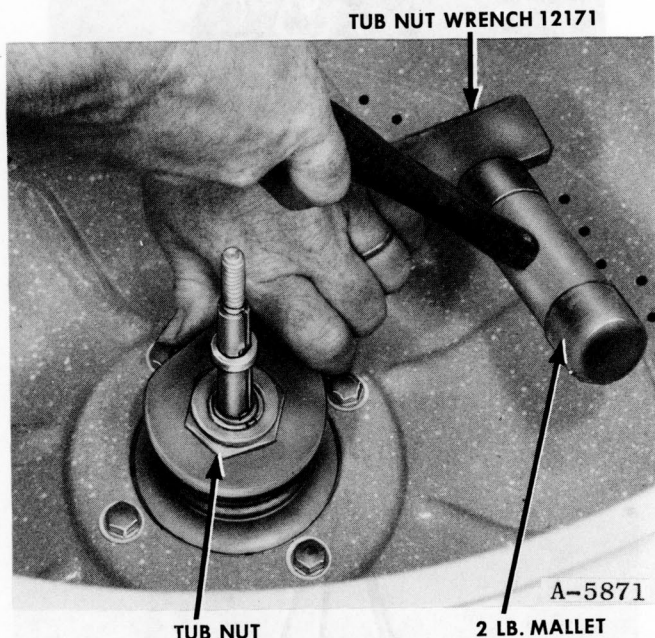

Figure 76
4. Remove the tub nut using tub nut wrench 12171, Figure 76.
2. Manually tighten the nut as tight as possible, using 12171 wrench, then tighten the nut an additional 1/8 turn by impacts of a 2 lb. rawhide mallet on the wrench. Figure 76.